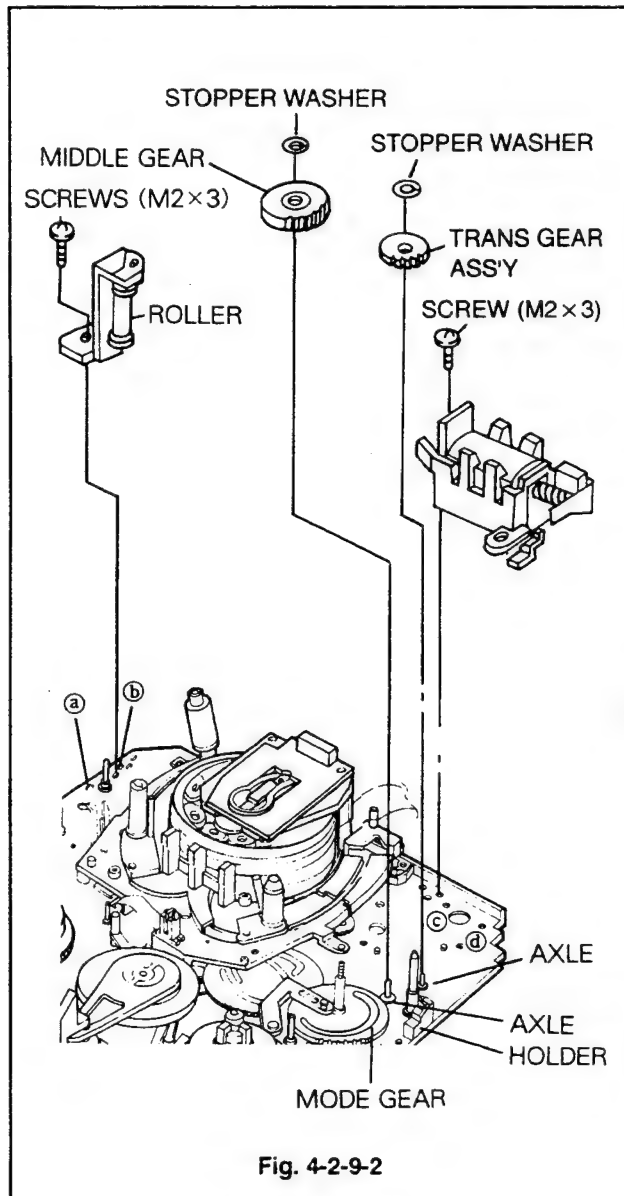

Fig. 4-2-9-2
### 9-1. Disassembly (Fig. 4-2-9-1, 4-2-9-2)
- (1) Remove the Screw for removed the Loading Motor Ass'y (Fig. 2-9-2). At this time, the Worm Gear Ass'y is disassembled simultaneously with the Loading Motor Ass'y ① and Worm Gear Ass'y ② in gear together. (Fig. 4-2-9-1)
- (2) Remove the Loading Motor Ass'y and Worm SHAFT Ass'y. (Fig. 4-2-9-1)
- (3) Remove the Stopper Washer and remove the Trans Gear Ass'y.
- (4) Remove the Stopper Washer and remove the Middle Gear.
- (5) Release the Screw to remove the Bracket Ass'y.
### 9-2. Reassembly (Fig. 4-2-9-2)